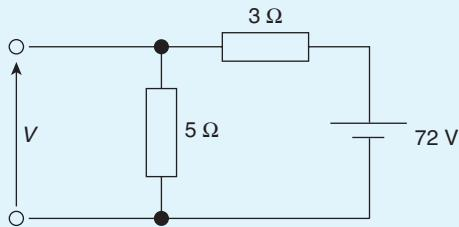

Figure 5.11
4. Calculate the value of voltage \$V\$ in Fig. 5.11 [45V]